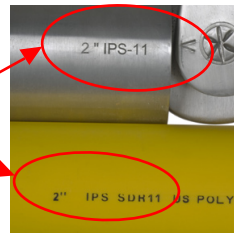

Fig 3
3. Rotate the **Jaw Sleeve** so the correct pipe size lines up with the pipe size indicator arrow shown on the **Tool Link**. (*Fig 3*)